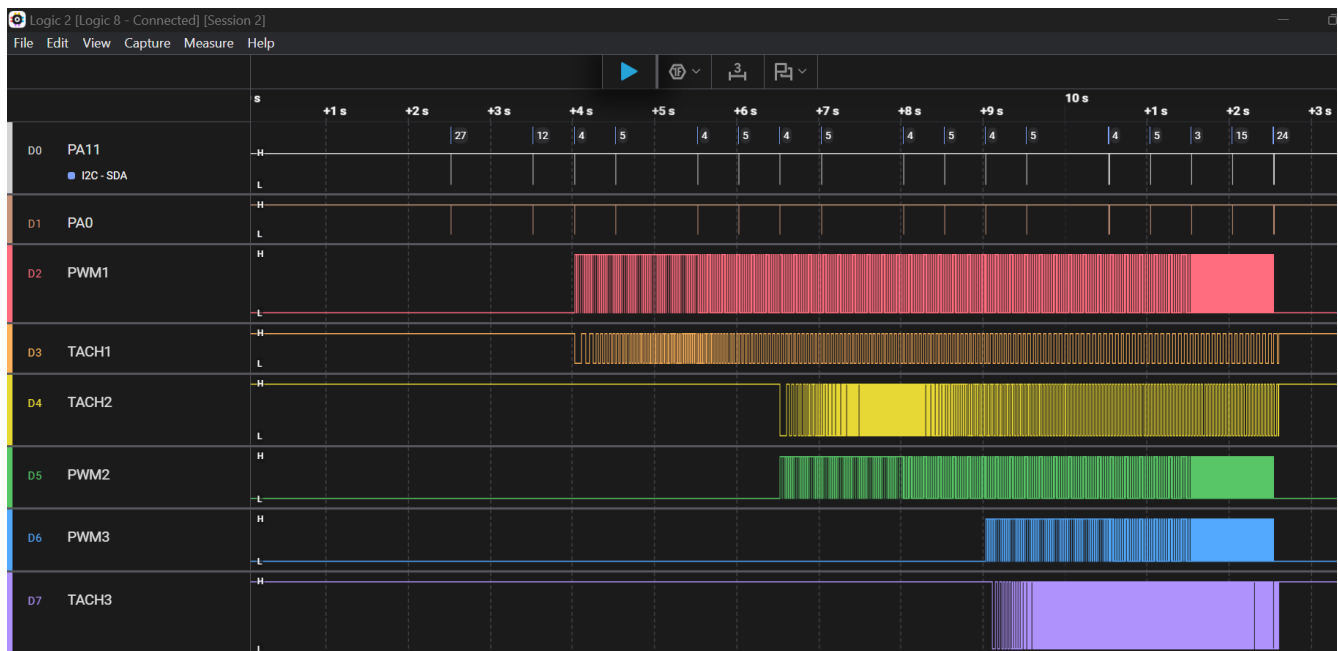

Figure 4-1. Few Test Results Captured by Saleae
8. Figure 4-1 shows signals captured with Saleae (The Saleae only has eight channels. Only a few signals were captured). Analyze the signals with I2C commands to verify if the Saleae matches expectations.